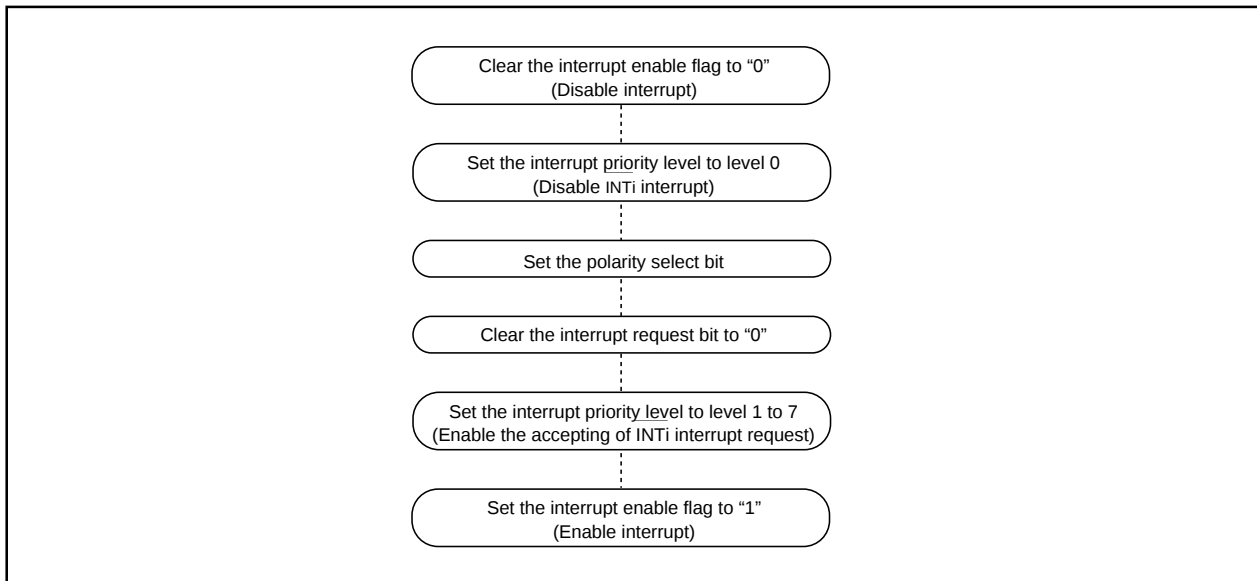

Fig.DD-21 Switching condition of INT interrupt request
(3) The $\overline{\text{NMI}}$ interrupt
(4) External interrupt
- When the polarity of the $\overline{\text{INT0}}$ to $\overline{\text{INT11}}$ pins is changed, the interrupt request bit is sometimes set to "1". After changing the polarity, set the interrupt request bit to "0". Fig.DD-21 shows the procedure for changing the $\overline{\text{INT}}$ interrupt generate factor.